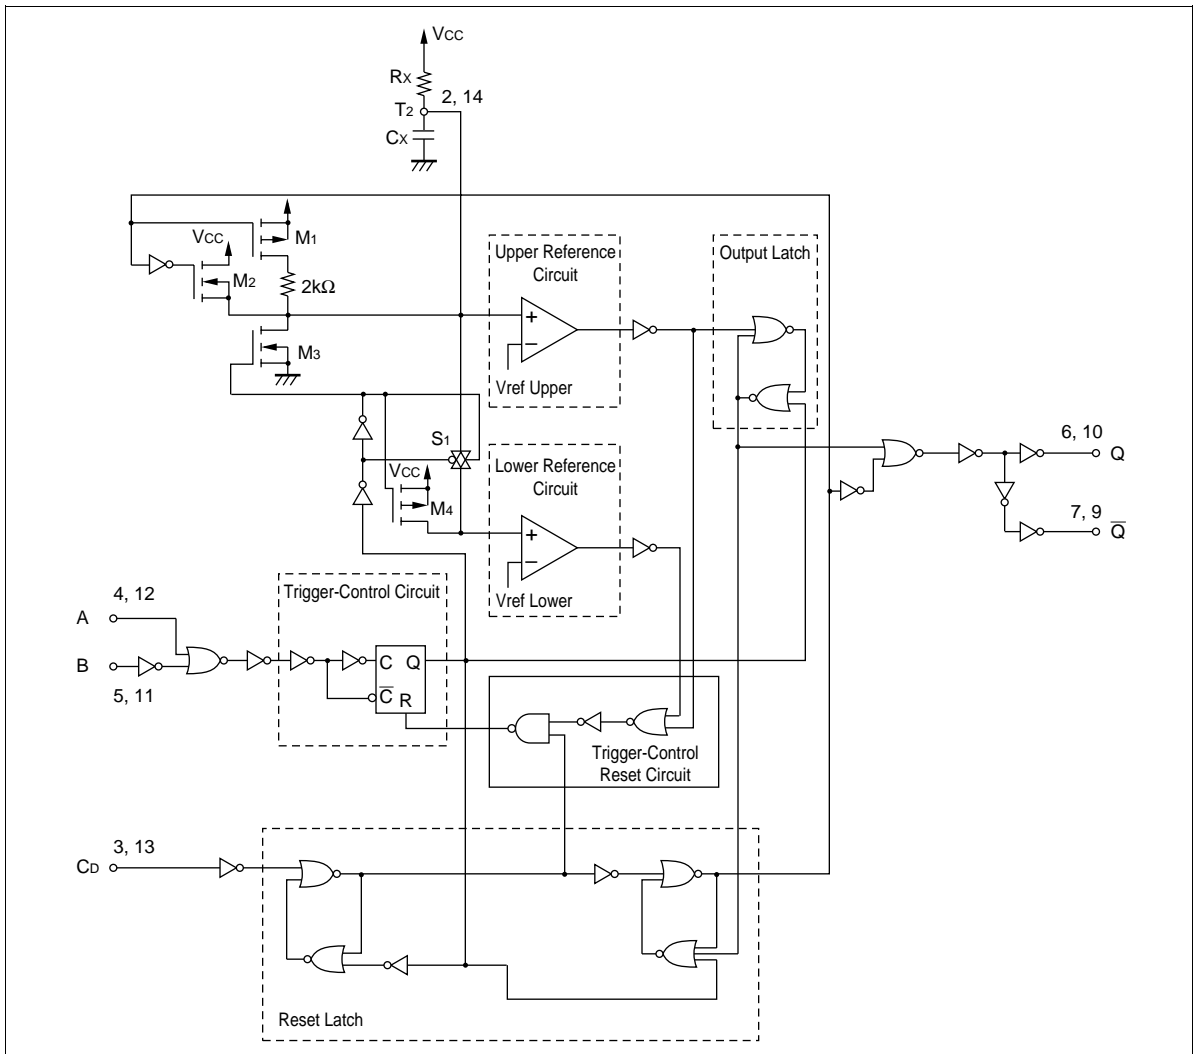
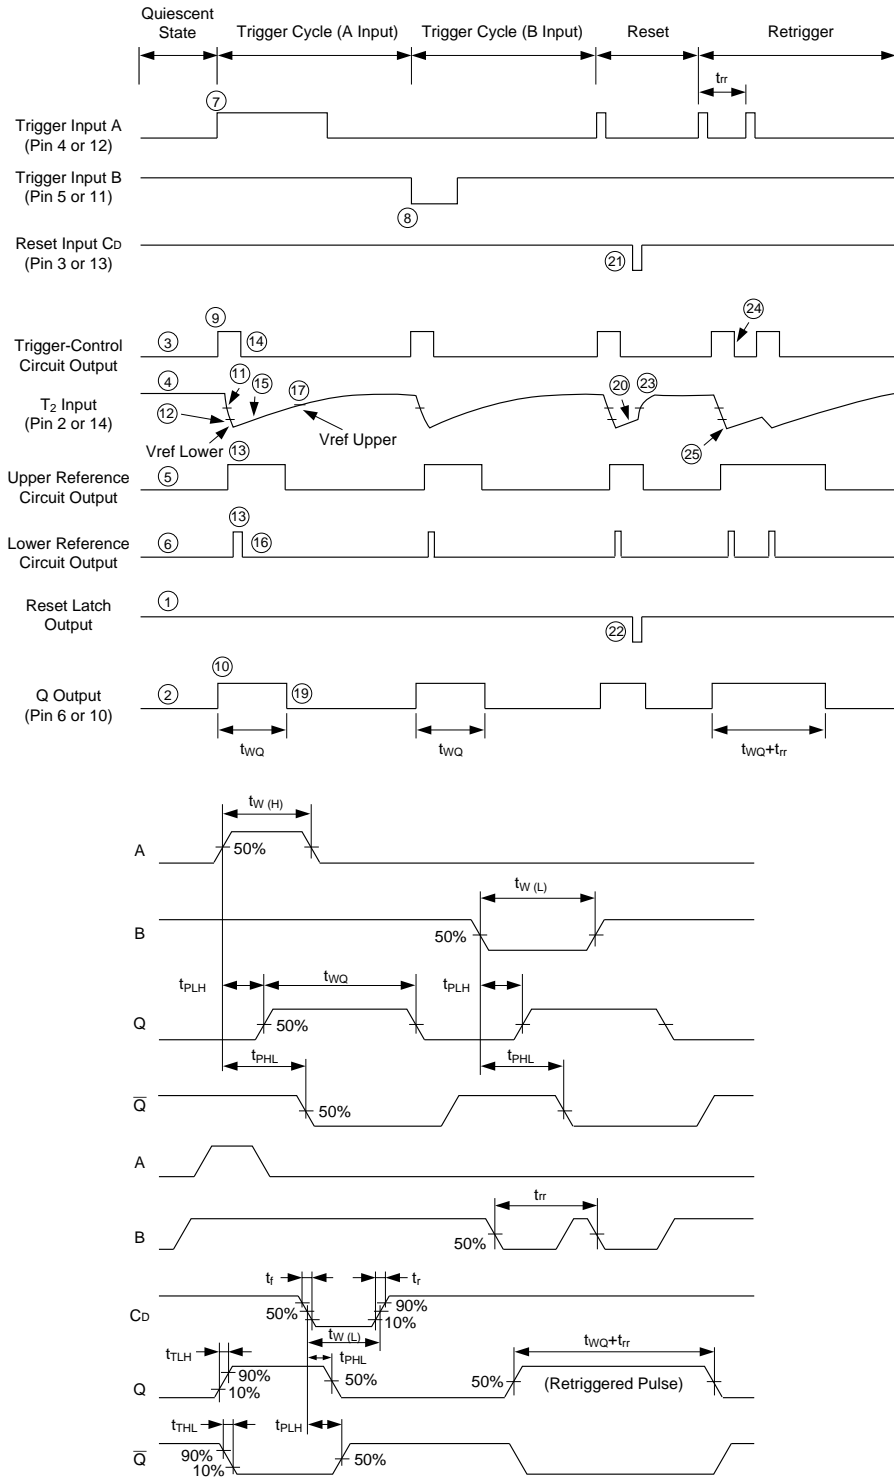
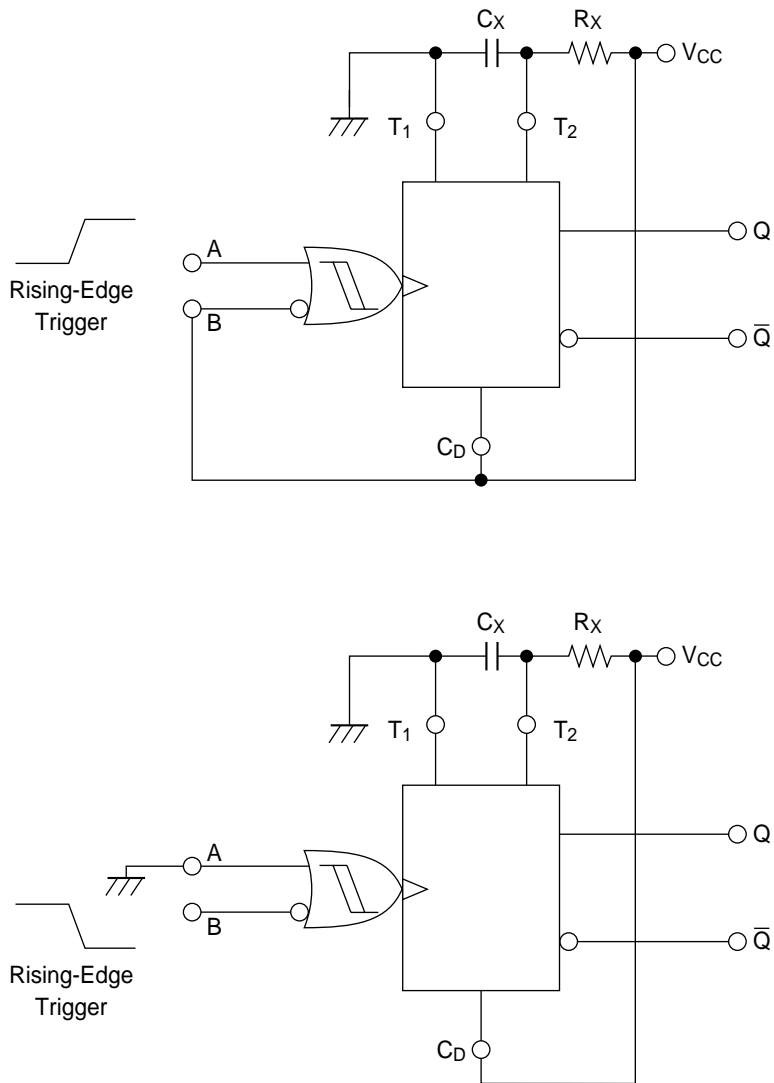

Fig. 1 Function Diagram
Fig. 2 Timing Diagram
Fig. 3 Retriggerable Monostable Circuitry
Fig. 3 shows the HC4538 configured in the retriggerable mode. Briefly, the device operates as follows (refer to Fig. 1): In the quiescent state, the external timing capacitor, C_X , is charged to V_{CC} . When a trigger occurs, the Q output goes high and C_X discharges quickly to the lower reference voltage ($V_{ref\ Lower} = 1/3 V_{CC}$). C_X then charges, through R_X , back up to the upper reference voltage ($V_{ref\ Upper} = 2/3 V_{CC}$), at which point the one-shot has timed out and the Q output goes low.
The following, more detailed description of the circuit operation refers to both the function diagram (Fig. 1) and the timing diagram (Fig. 2)
In the quiescent state, before an input trigger appears; the output latch is high and the reset latch is high (1 in Fig. 2). Thus the Q output (pin 6 or 10) of the monostable multivibrator is low (2 Fig. 2).
When used in the retriggerable mode (Fig. 3), the HC4538 may be retriggered during timing out of the output pulse at any time after the trigger-control circuit flip-flop has been reset (24). Because the trigger-control circuit flip-flop resets shortly after C_X has discharged to the reference voltage of the lower reference circuit (25), the minimum retrigger time, t_{rr} (Switching Waveform 1) is a function of internal propagation delays and the discharge time of C_X :